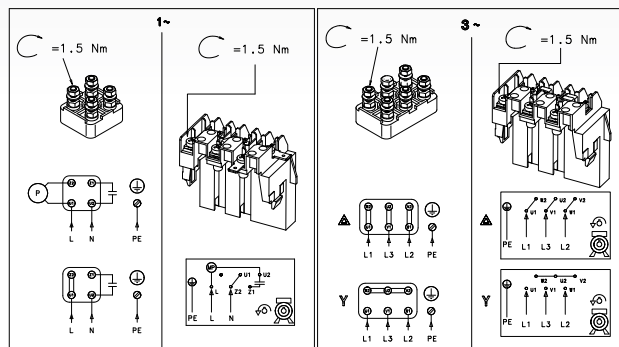

Figure 6
For wiring diagrams, see figure 6.
- b) In the terminal board of the motor or in the electric control panel, exchange the position of two of the three wires of the supply cable. For the wiring diagrams, see Figure 6 on page 17.